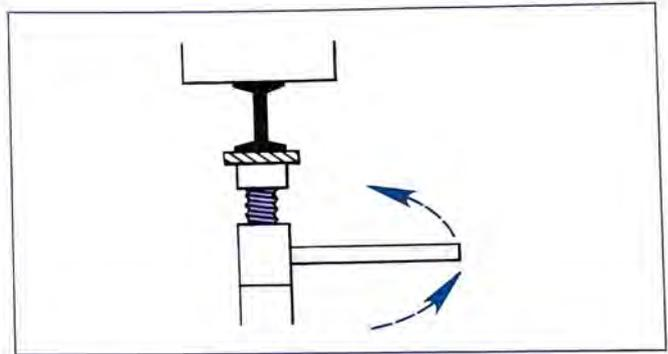

FIGURE 13-3 Increasing Force with a Screw Thread
- As simple machines (in a physical science context) to transmit and increase force or power (a machine feed screw and a common screw jack are shown in Figure 13-3 as examples of this function);